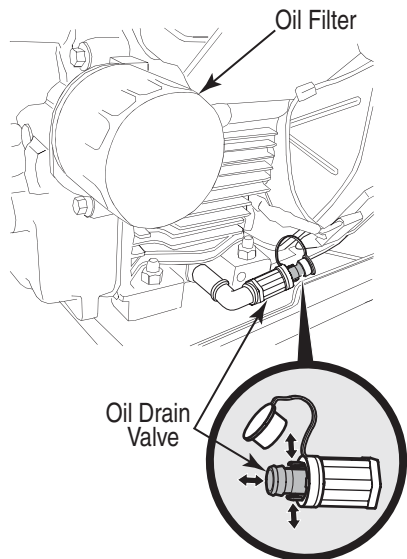
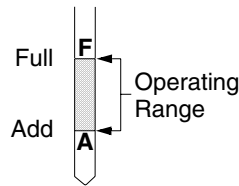
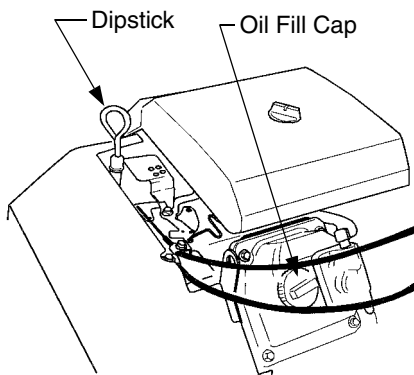

Figure 24
Figure 25
Figure 26
- Pop open the protective cap on the end of the oil drain valve to expose the drain port. See Figure 24. Remove the dipstick from its tube.
- Pinch in the lock tabs on the oil drain valve, then pull the drain port outward to begin draining oil. Refer to Figure 24.
Before checking the oil level, clean the area around the oil level dipstick to prevent debris from entering the crankcase. Refer to Figure 26. Always keep the oil level between the “FULL” and the “ADD” marks on the dipstick. See Figure 25.
- Clean the area around the oil filler cap to prevent debris from entering the crankcase. Refer to Figure 26.
- Remove the oil filler cap from the left valve cover and SLOWLY pour in oil. Fill the crankcase until the oil level reaches the "FULL" mark on the dipstick. Refer to Figure 25.
- Clean around the base of the oil filter, the oil filler cap, and the dipstick tube to prevent debris from entering the crankcase. See Figure 24 and Figure 26.